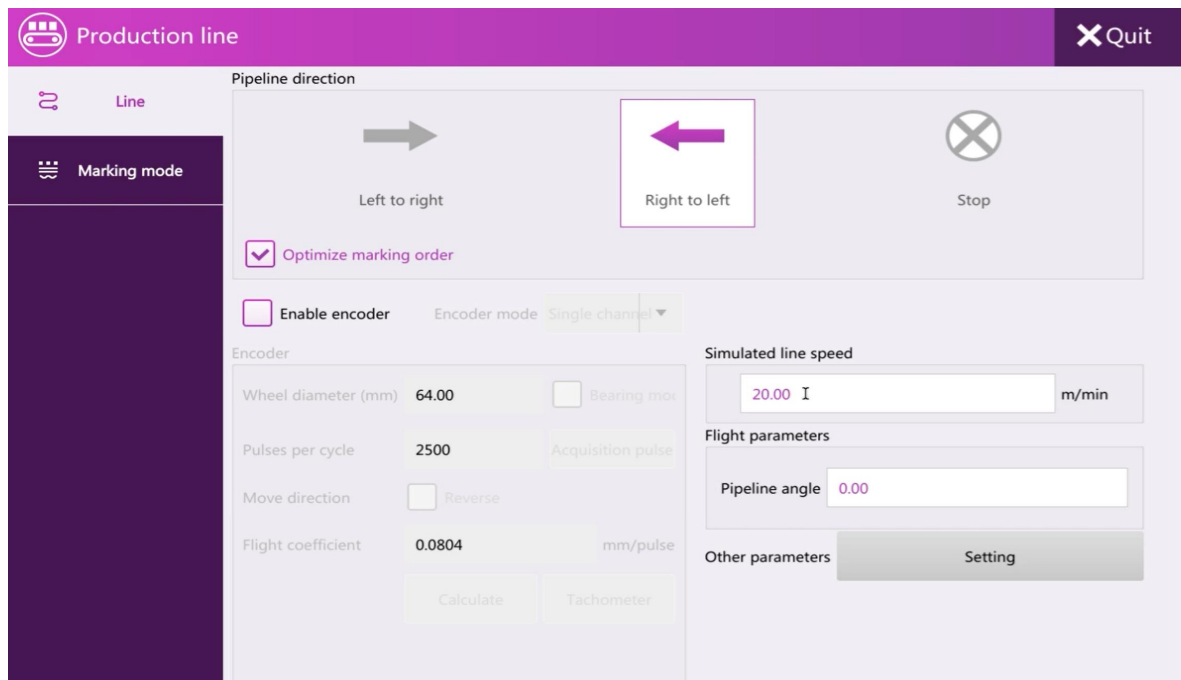

Figure 3-8
**Setting method:**Use the encoder unchecked, as shown in Figure 3-8. Measure the line speed first, then fill the line speed into the fixed speed. When the following conditions occur during marking, the fixed speed can be modified until normal.